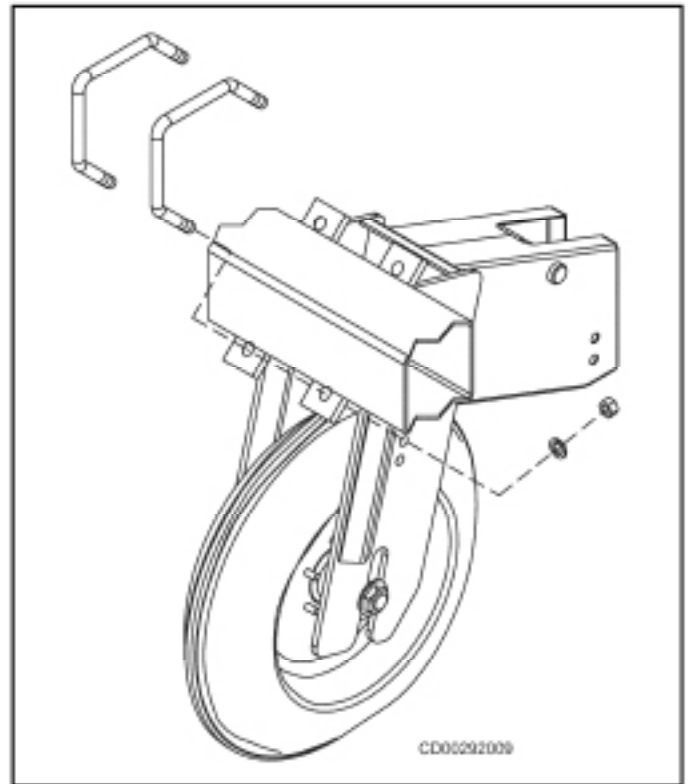

**Figure 16** Rear Shank
- Large sweeps use 1/2 x 3-1/2" plow bolts and spacer plates as shown in Figure 16.